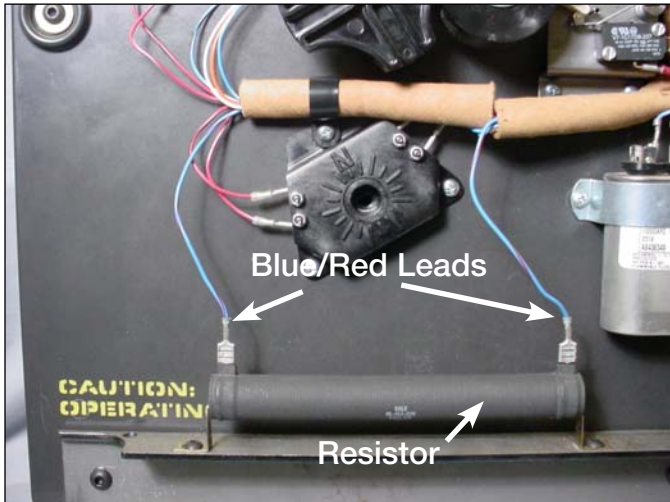

Figure 44.
12. Connect the blue wires with red strips to the 40-ohm resistor by pushing the female connector onto the resistor terminals. See Figure 44.